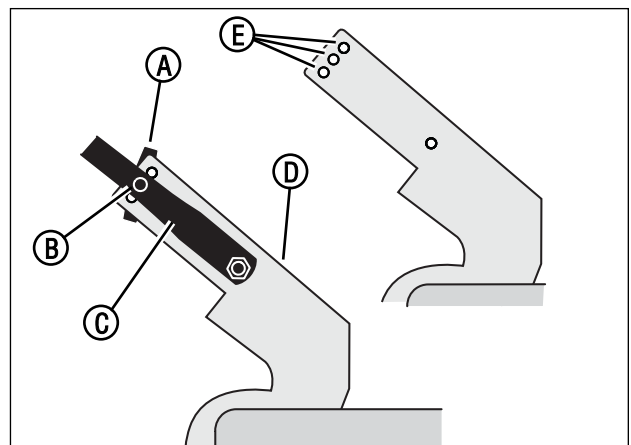

Figure 6: Handle positions (Hi-Wheel models)
1. Remove the wingnuts (A, Figure 6) and bolts (B) from the right and left handle brackets (C).
2. To raise the handle, mount the lower handle (D, Figure 6) to a higher adjustment hole (E).